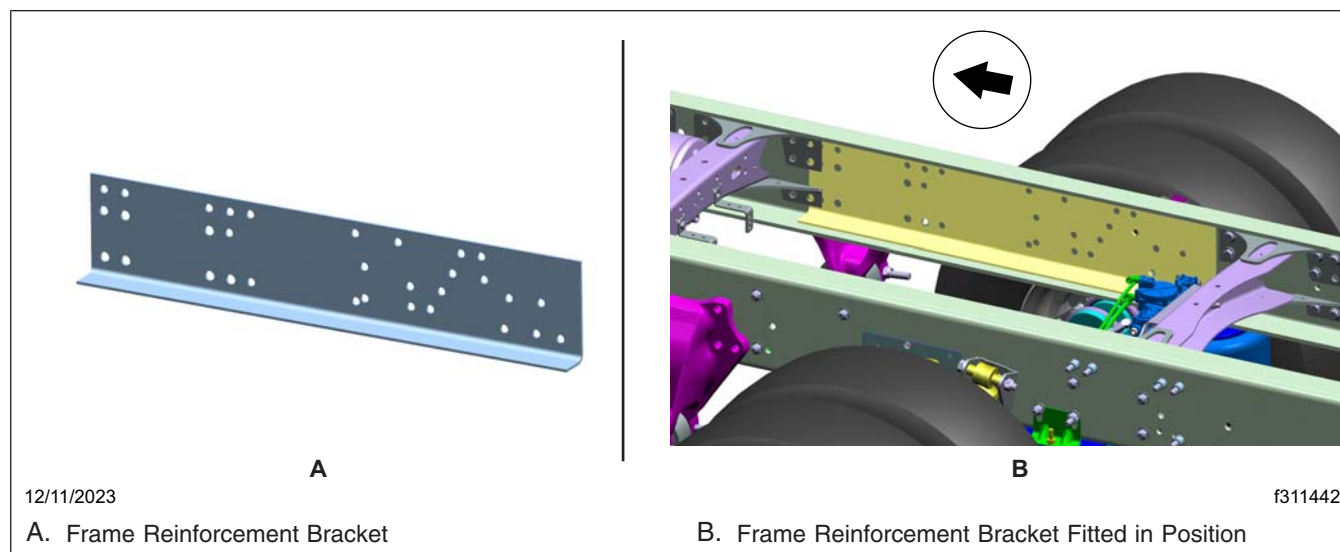

Fig. 9, Installation of the Frame Reinforcement Bracket
14. Drill suitable holes in the frame reinforcement bracket, as shown in Fig. 9.
15. Slide the frame reinforcement bracket inside the frame rail lining and align with the pre-drilled holes, as shown in Fig. 9.